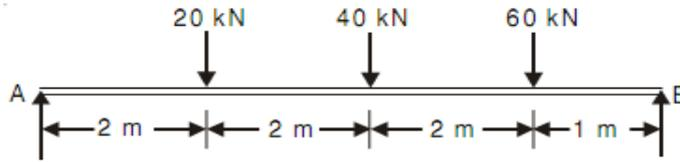

Figure No 3
24. a) A simply supported beam is loaded as shown in Figure No 3 is 200mm wide and 400mm deep. Find the slopes at the supports, deflections under loads and magnitude of the maximum deflection.